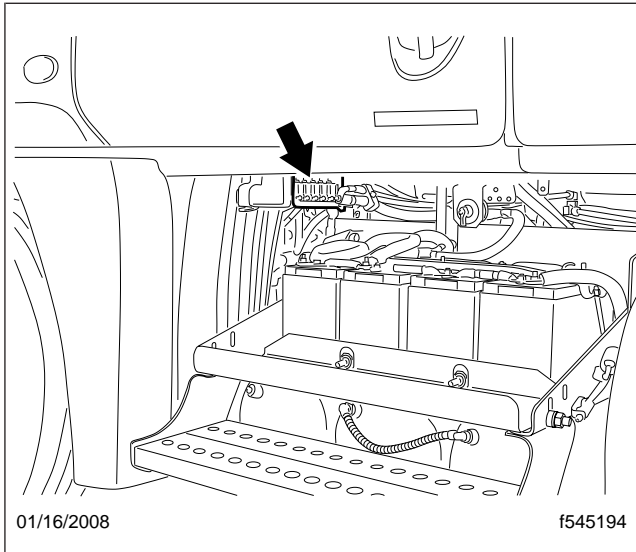

Fig. 2, Location of MEGA Fuses (typical)
3. Locate the Mega Fuse Junction Block. On business class M2 vehicles, the Mega Fuse Block is typically located inside the battery box. See Fig. 2.